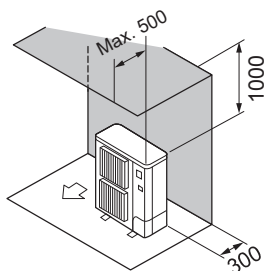

Fig. 2-8
- ② Obstacles at rear and above only (Fig. 2-8)